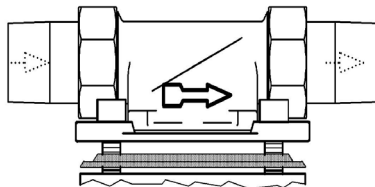

Figure 1. Built-in rotary flange
- direction of flow (see Figure 1)